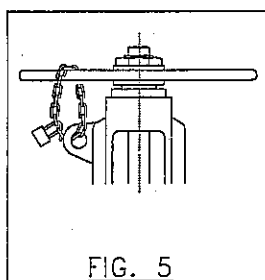

FIG. 5
- *Figure 5* ► it represents a detail of a standard locking device.